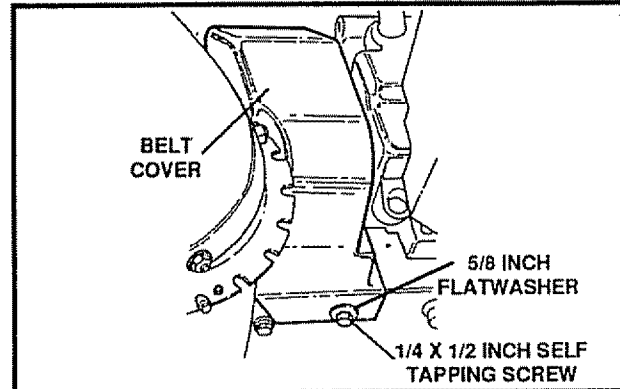

FIG. 27
- Remove the belt cover (See Fig. 27, page 20).
- Remove the belt cover (See Fig 27)
- Remove the belt cover by removing the screw and flatwasher on the left and right hand sides. See Fig. 27 page 20.